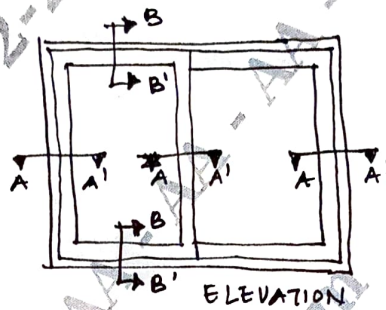

Fig. Q10(b)
- b. Draw the following details of a two – track sliding window, referring to the given elevation in Fig. Q10(b). Choose appropriate scales.